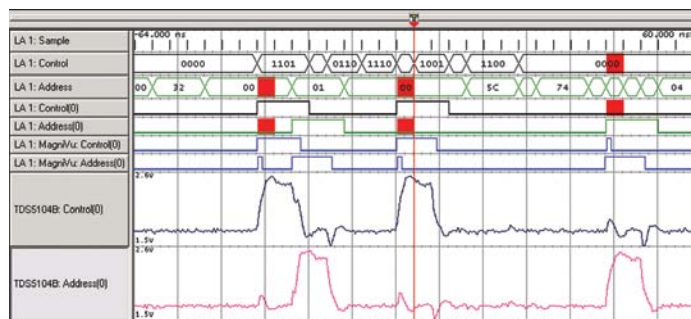

Figure 6. Crosstalk between Control (0) and Address (0) shown using iView measurement.
Testing the earlier crosstalk hypothesis on Control (0) and Address (0), Figure 6 shows that for every leading edge of one signal there is a corresponding positive voltage pulse on the other. This makes crosstalk between Control (0) and Address (0) the obvious diagnosis. Crosstalk can easily occur on adjacent runs or pins within the package. High frequency signals and clock edges have a greater susceptibility to crosstalk effects than lower frequency signals. This implies that even design practices that were consistently successful at slower frequencies can be a contributor to failures at higher frequencies.